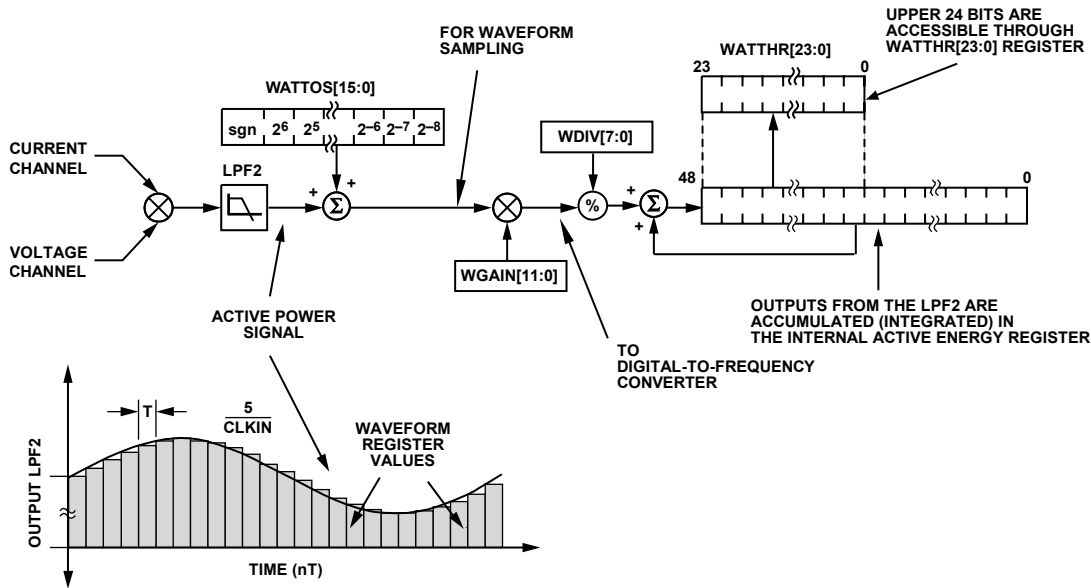

Figure 52. Active Energy Calculation
Figure 52 shows the signal processing chain for the active power calculation in the ADE7566/ADE7569. As explained previously, the active power is calculated by filtering the output of the multiplier with a low-pass filter. Note that when reading the waveform samples from the output of LPF2, the gain of the active energy can be adjusted by using the multiplier and watt gain register (WGAIN[11:0]). The gain is adjusted by writing a twos complement 12-bit word to the watt gain register. Equation 12 shows how the gain adjustment is related to the contents of the watt gain register.
The discrete time sample period (T) for the accumulation register in the ADE7566/ADE7569 is 1.22 μ s (5/MCLK). In addition to calculating the energy, this integration removes any sinusoidal components that may be in the active power signal. Figure 52 shows this discrete time integration or accumulation.
The output of the multiplier is divided by the value in the WDIV register. If the value in the WDIV register is equal to 0, the internal active energy register is divided by 1. WDIV is an 8-bit unsigned register. After dividing by WDIV, the active energy is accumulated in a 49-bit internal energy accumulation register. The upper 24 bits of this register are accessible through a read to the active energy register (WATTHR[23:0]). A read to the RWATTHR register returns the content of the WATTHR register, and the upper 24 bits of the internal register are cleared. As shown in Figure 52, the active power signal is accumulated in an internal 49-bit signed register. The active power signal can be read from the waveform register by setting the WAVMODE Register (0x0D) and setting the WFSM bit in the Interrupt Enable Register 3 SFR (MIRQENH, 0xDB). Like the current and voltage channels waveform sampling modes, the waveform data is available at sample rates of 27.9 kSPS, 14 kSPS, 7 kSPS, or 3.5 kSPS.